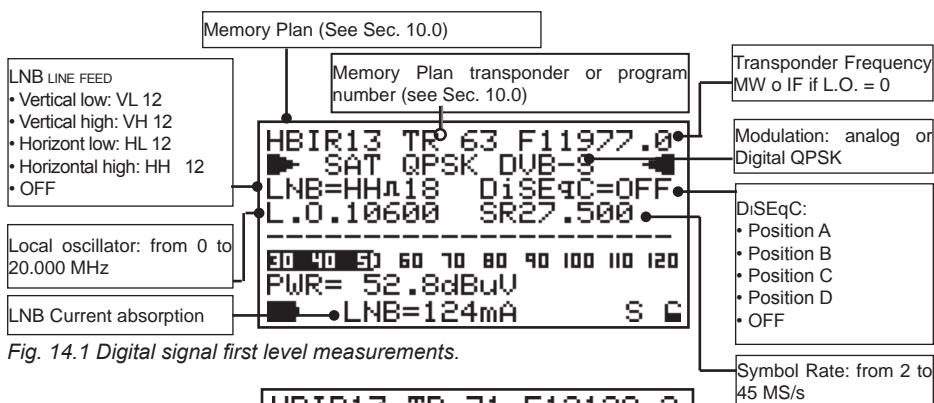
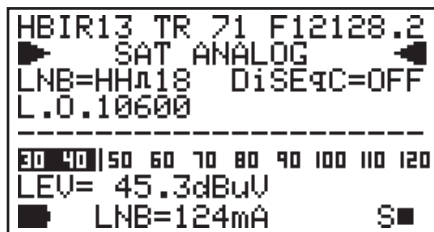

Fig. 14.1 Digital signal first level measurements.
Fig. 14.2 Analog signal first level measurements.
- 5) Regardless of the measurement level, when pressing the "Power On" key [14], the meter will always return to the First Level or Power measurement display (see fig. 14.1 or 14.2) depending on the type of transponder being measured (Digital or Analog).
- 4) From any measurement level, by pressing briefly the HOME [20] key, the meter will return to the first measurement level shown in fig. 14.1 or fig. 14.2,
- Use the ENCODER [3] to change the spectrum variable fields as shown in fig. 14.1: SPAN, transponder or program number, Frequency, Reference level. The chosen field will be highlighted with a dark background,